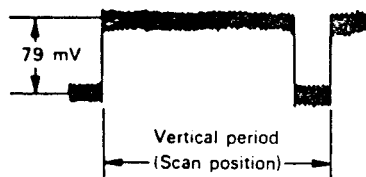
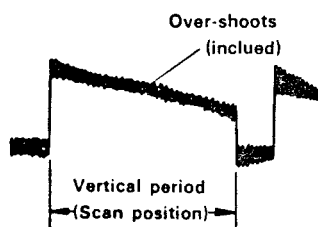

Fig. 23
Fig. 24
- 2) Adjust VR112 to set the waveform in Fig. 23 to 79 mV.
- 3) When there is over-shoots as shown in Fig. 24, fine adjust VR209 to make it flat as shown in Fig. 23.